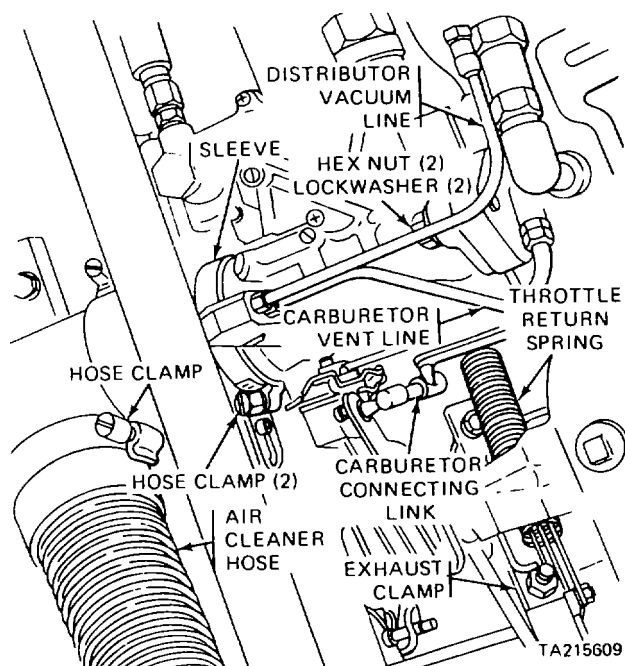

Figure 4-1.3. Engine and Transmission Replacement - Air Intake Sleeve and Exhaust Clamp Removal
- (13) Disconnect air-intake sleeve from carburetor (fig. 4-1.3).
- (14) Remove exhaust pipe clamps at each end (refer to TM 9-1450-500-20).